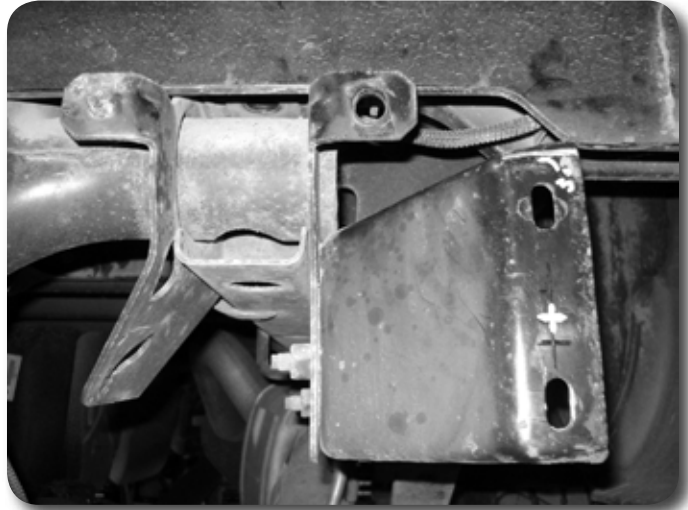

Figure 21
50. Similar holes will need to be drilled on the bumper brackets still on the frame. Either measure up 1.5" from the center of the slot and mark or use the new brackets as a template. Drill 1/2" holes at the marks. **Figure 21**